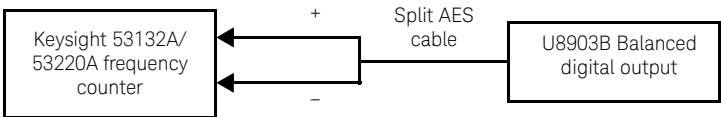

Figure 4-5 Keysight 53132A/53220A to U8903B balanced digital output for balanced output sampling rate accuracy verification
- 1 Connect the Keysight 53132A/53220A frequency counter input channel 1 and 2 to the U8903B balanced digital output channel using the XLR female to two BNC male split AES cable with separated + and – output lines as shown in **Figure 4-5**.